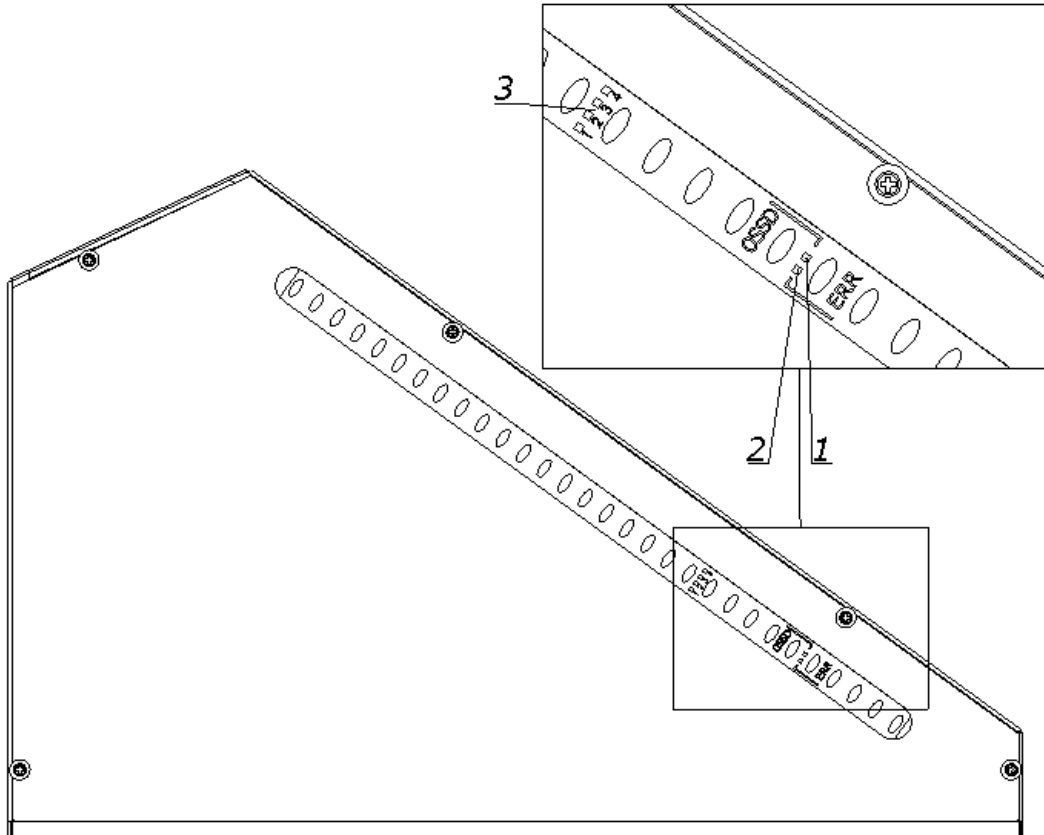
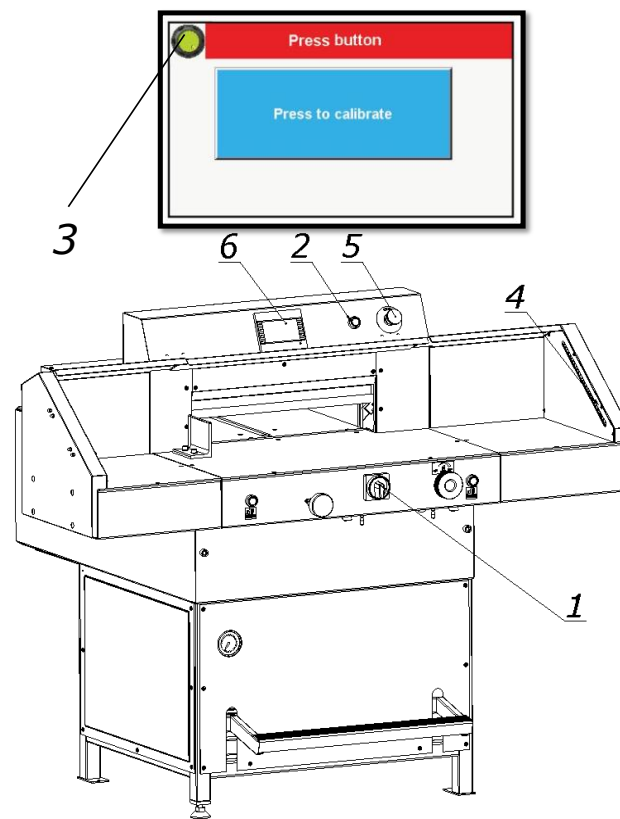

Figure 11. Indicators of the LED safety curtain receiver
Figure 15. Arrangement of the elements used when switching on the cutter.
1. Set the main switch 1 to "ON" 1 position (Fig. 15)
2. Press the green button 2 (Fig.15)
- green LED 3 on the program unit 6 display lights up (fig.15)
- the green OSSD 1 LED lights up (Fig.11) in the receiver 4 (Fig.15)
All transmitter and receiver LEDs will light for a moment. After initialization the receiver indicates the quality of the setting using four blue LEDs 3 (Fig.11). Table 9.
The setting indicator extinguishes after a suitable time when the safety light curtain is set (the LED of the device switching the output signal: green item 1 figure 11) and only the PWR LED of transmitter 1 (fig.12) and LED 1 (fig. 11) device for switching the output signal of the receiver.
1. Press the button, 5 (Fig.15)
1. Unlock button, 5 (turn it to the left, it will pop out) (Fig.15)